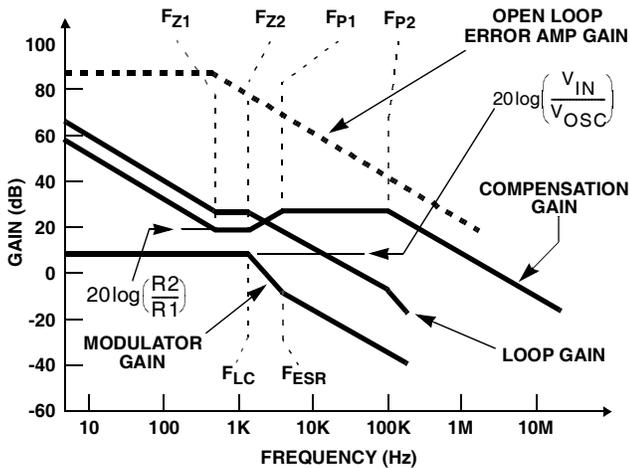

FIGURE 6. ASYMPTOTIC BODE PLOT OF CONVERTER GAIN
Figure 6 shows an asymptotic plot of the DC-DC converter's gain vs. frequency. The actual modulator gain has a high gain peak dependent on the quality factor (Q) of the output filter, which is not shown in Figure 6. Using the above procedure should yield a compensation gain similar to the curve plotted. The open loop error amplifier gain bounds the compensation gain. Check the compensation gain at F_{P2} with the capabilities of the error amplifier.